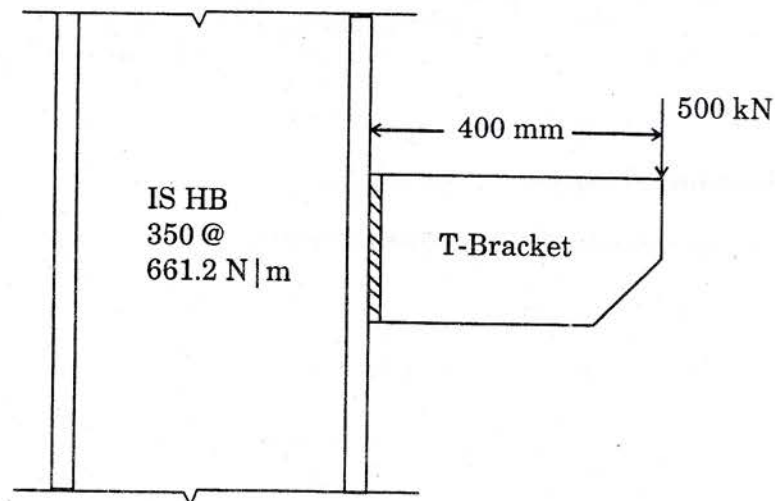

Fig. 1
12. (a) Design bracket connection for the factored load of 500 kN shown in Fig. 1. Provide 20 mm diameter bolts of grade 4.6. Given steel of grade Fe 410.